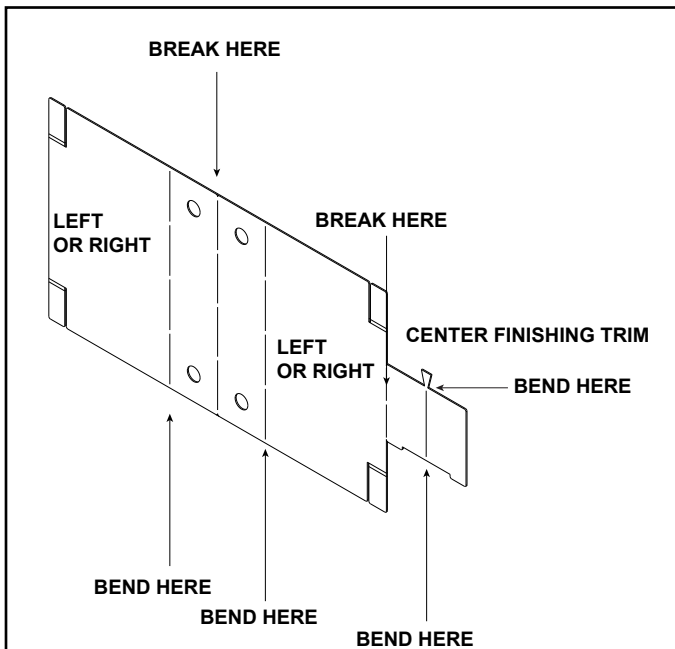
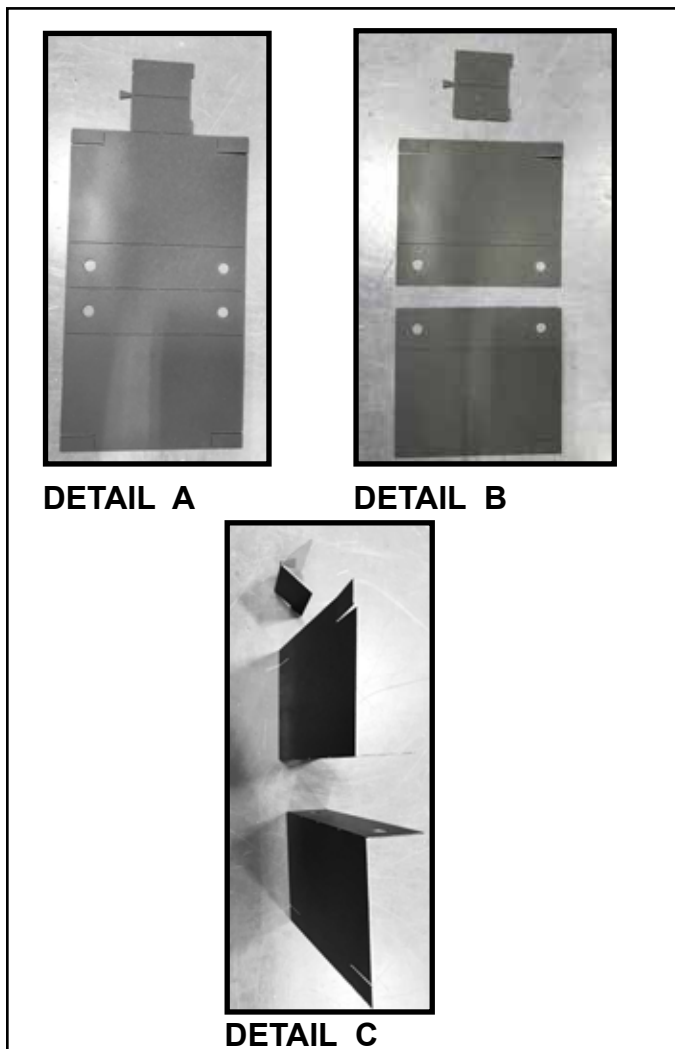

Figure 5.12 Finishing Trim
Figure 5.13 Break and Bend Finishing Trim
10. Locate the finishing trim piece and break at the two places noted in Figure 5.12. Bend as indicated in Figure 5.13, Detail A, B, and C.